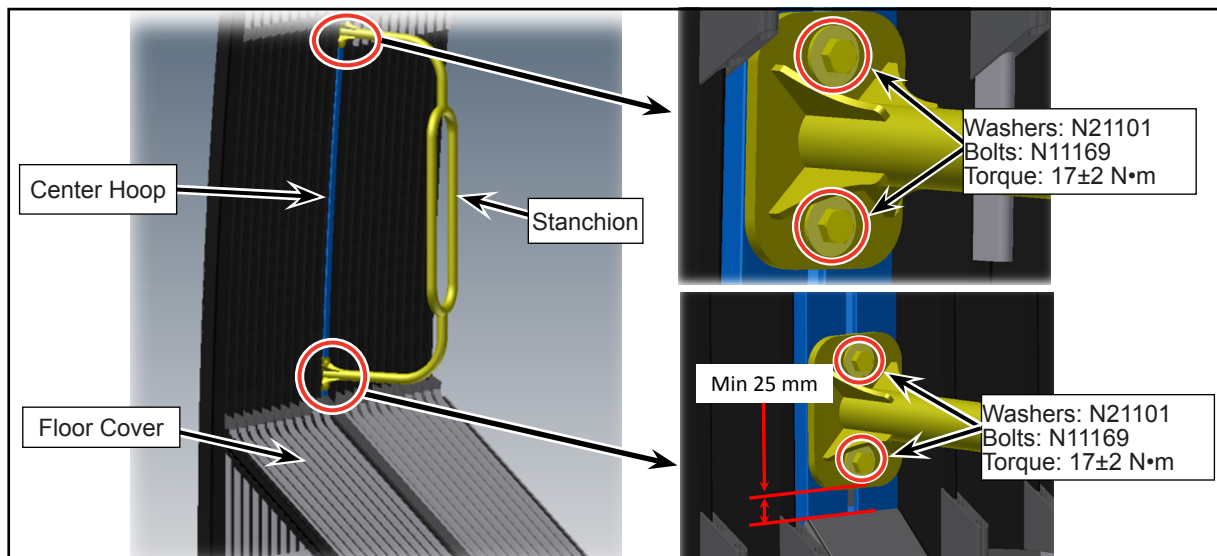

Figure 6 - Installation of New Stanchion
- 1.7. Install the new stanchion on to the tenon block present inside the center hoop profile with the hardware provided (see Figure 6).
- 1.8. Ensure that enough gap (Min. 25 mm) is left between the lower edge of the stanchion and the floor cover profile as shown (see Figure 6).
- 1.9. Apply blue thread locker and torque the bolts as specified (see Figure 6).